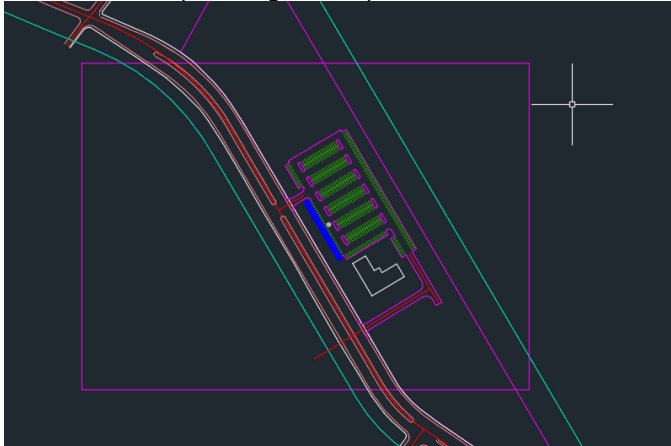

Figure 30: Rectangle from Paper Space placed into Model Space at real-world scale.
4. Switch to Model space to observe the Rectangle placed in Model space at real world scale (see Figure 30).